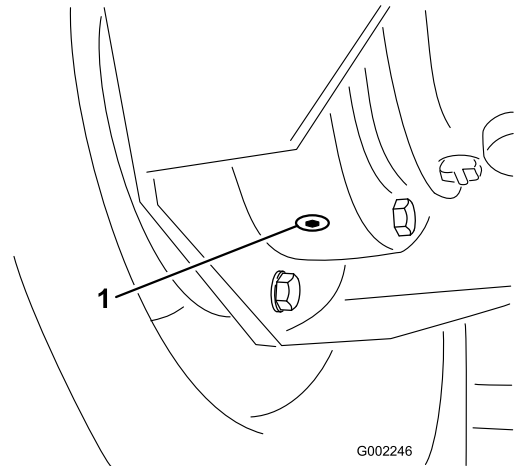

Figure 49
4. Place a pan under the inner drain plug and remove it (Figure 49).